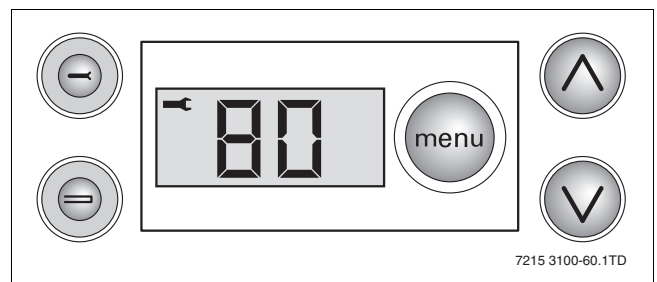

Fig. 60 DBA with open-ended spanner
- Set the boiler to partial load by pressing the service button \ominus once. A symbol of an open-ended spanner  appears in the upper left hand corner of the display (see fig. 60).